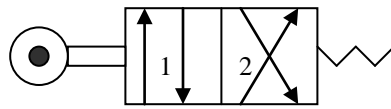
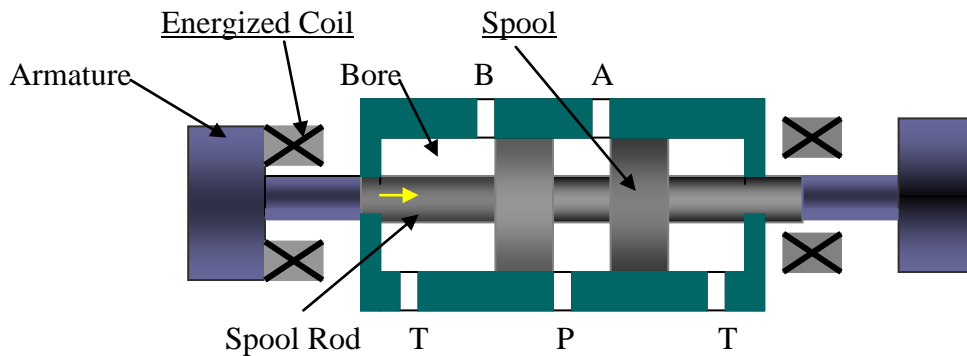

Fig 4.16.
Fig 4.18 Working of solenoid to shift spool of valve.
Fig 4.16 shows the symbol of 2 / 4 DCV with manually operated by roller tappet to 1 and spring return to 2.
3. **Solenoid-actuated DCV** : A very common way to actuate a spool valve is by using a solenoid is illustrated in Fig 4.18. When the electric coil (solenoid) is energized, it creates a magnetic force that pulls the armature into the coil. This caused the armature to push on the spool rod to move the spool of the valve.. The advantage of a solenoid lies with in its less switching time.
Figure 4.18 shows the working of a solenoid actuated valve when left coil is energized, it creates a magnetic force that pulls the armature into the coil. Since the armature is connected to spool rod it pushes the spool towards right. Similarly when right coil is energized spool is moved towards left. When both coil is de-energized the spool will come to the mid position by spring force. Figure 4.16 a shows a symbol for single solenoid used to actuate 2- position, 4 way valve and b) shows symbol for 2 solenoids actuating a 3- position valve, 4 way valve..
Fig 4.18 a) Symbol for Single solenoid-actuated, 2- Position, 4-way spring centered DCV
Fig 4.18 b) Symbol for Solenoid actuated, 3- position, 4- way spring centered DCV